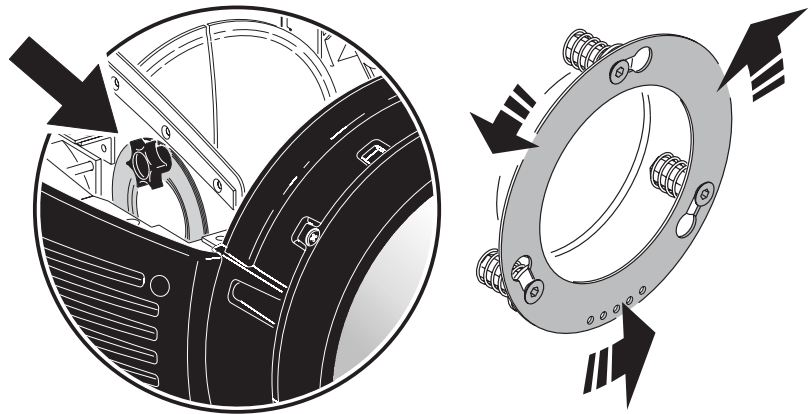

Figure 3
5. See Figure 3. MAC 2000 Wash XB and standard MAC 2000 Wash fixtures are supplied with 30, 40, 45 and 50 mm aperture rings. The 50 mm ring is installed at the factory and the three other sizes are secured in the front of the head with a thumbscrew (see solid arrow). The Beam Kit gives best results with the original 50 mm aperture ring, so re-install it if necessary. Aperture rings are installed in a spring-loaded bayonet mount in the beam path.